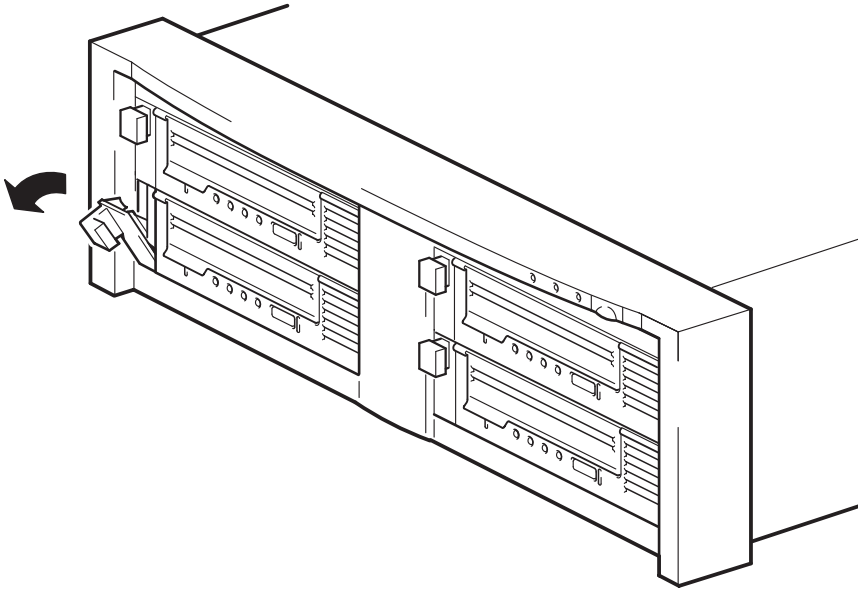

Figure 9a: pulling out the extraction lever
- 1 Pull the extraction lever of the drive that you want to replace so that it is in the out position. (See Figure 9a.)